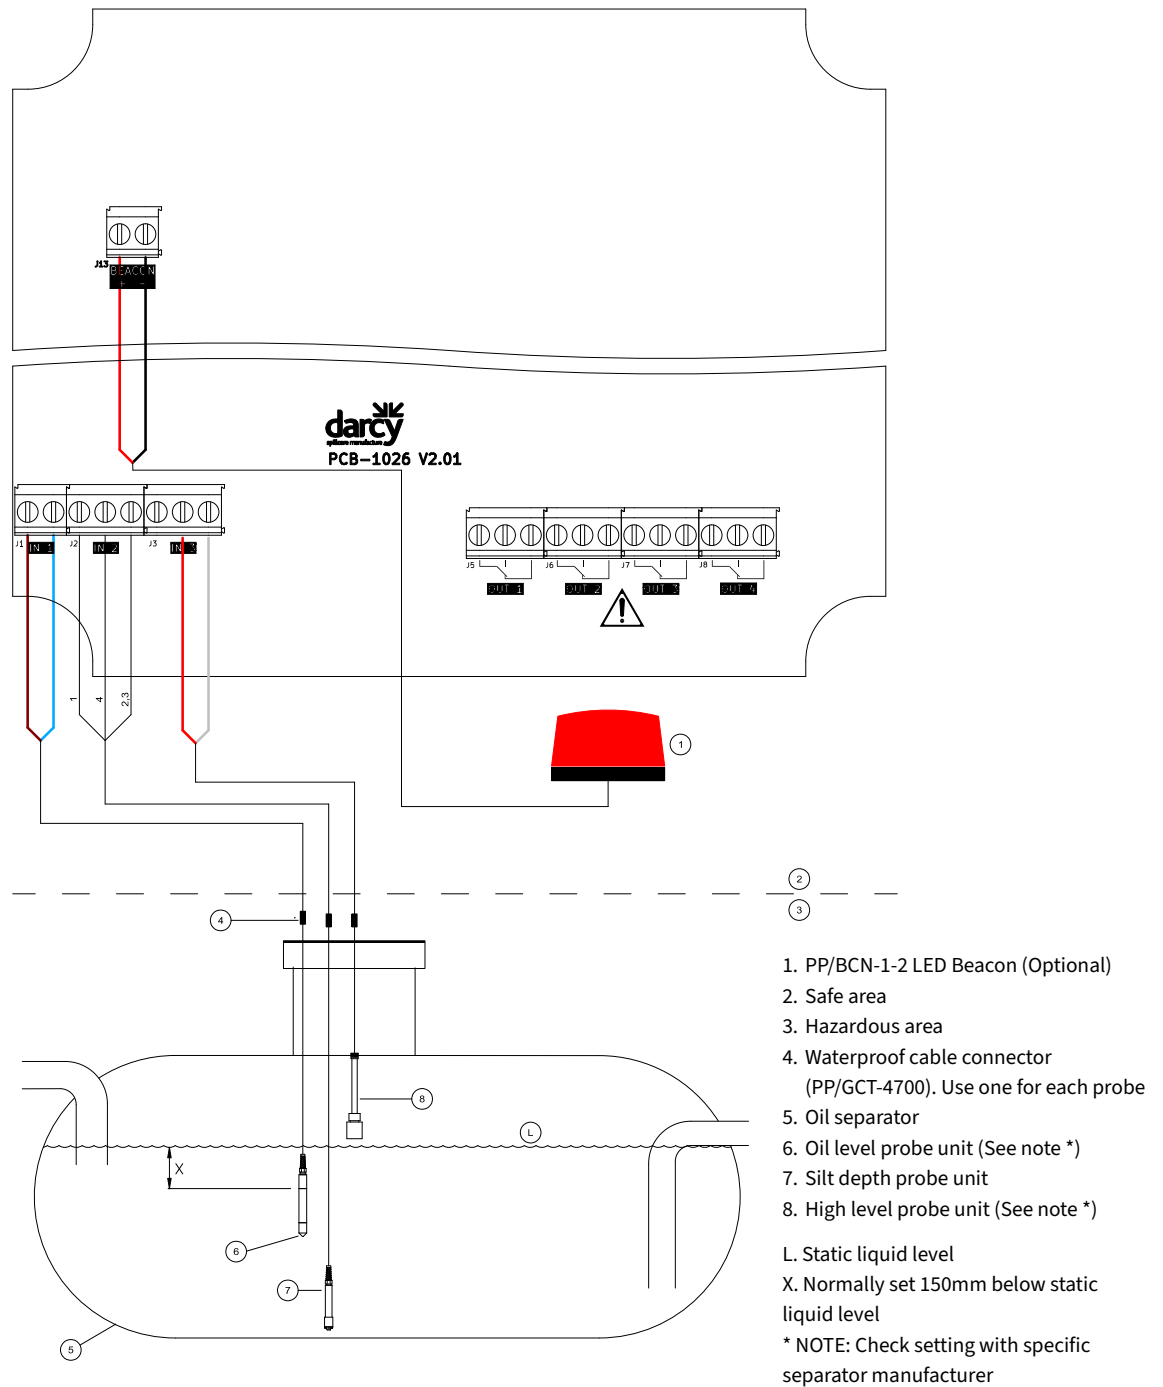

Figure 2: Typical installation for an oil separator alarm: Wiring probes and beacon
- d. Wire the float, conductivity, silt or capacitive probe cables into J1 ... J3 terminals on the PCBA inside the alarm according to Figure 2 and the wiring details in the Probe Terminals section.